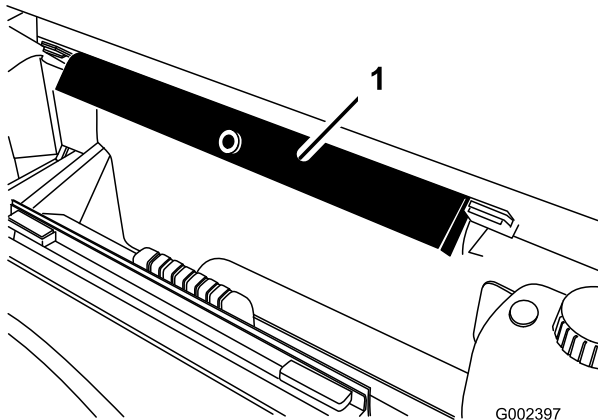

Figure 46
6. Remove the bed support from the storage brackets on back of the ROPS panel (Figure 46).